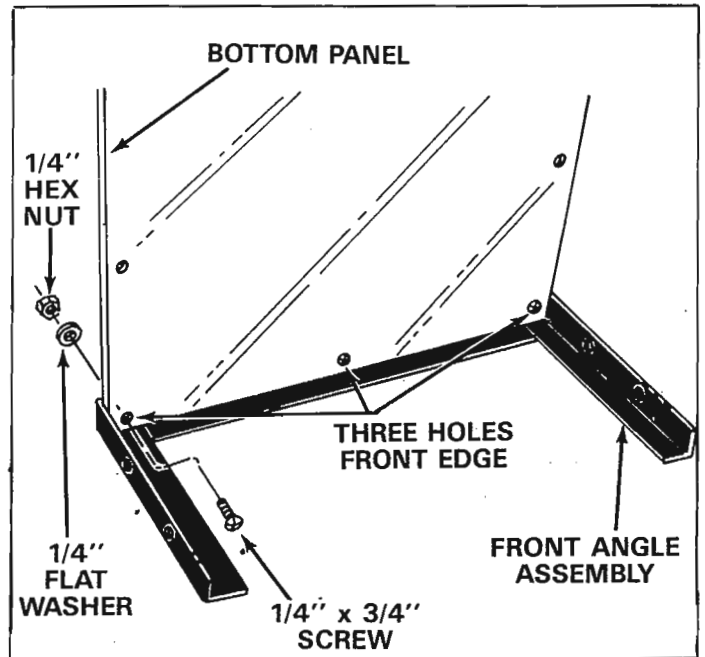

FIGURE 2.
1. Lay the front angle assembly down (flat) on floor and stand the bottom panel in position as shown in figure 2.
The bottom panel has one galvanized edge, this is the rear. The front edge has three holes. See figure 2.
2. Line up three holes in bottom panel with holes in front angle assembly. Start three 1/4" x 3/4" truss head screws through bottom panel, then through angle. Secure screws with flat washers and hex nuts. See figure 2. Tighten securely.